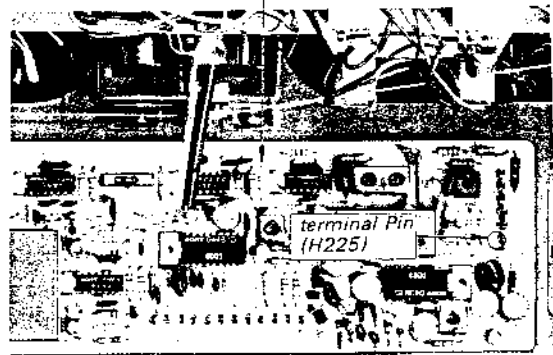

Fig. 3-2. Interruption of AFC circuit
1. Short the pin (H225) to the ground as shown in Fig. 3-2.
1. Disconnect the AFC circuit by pulling off the terminal pin (H225), coming from the fm front end board, on the fm i-f amp/MPX board as shown in Fig. 3-2.